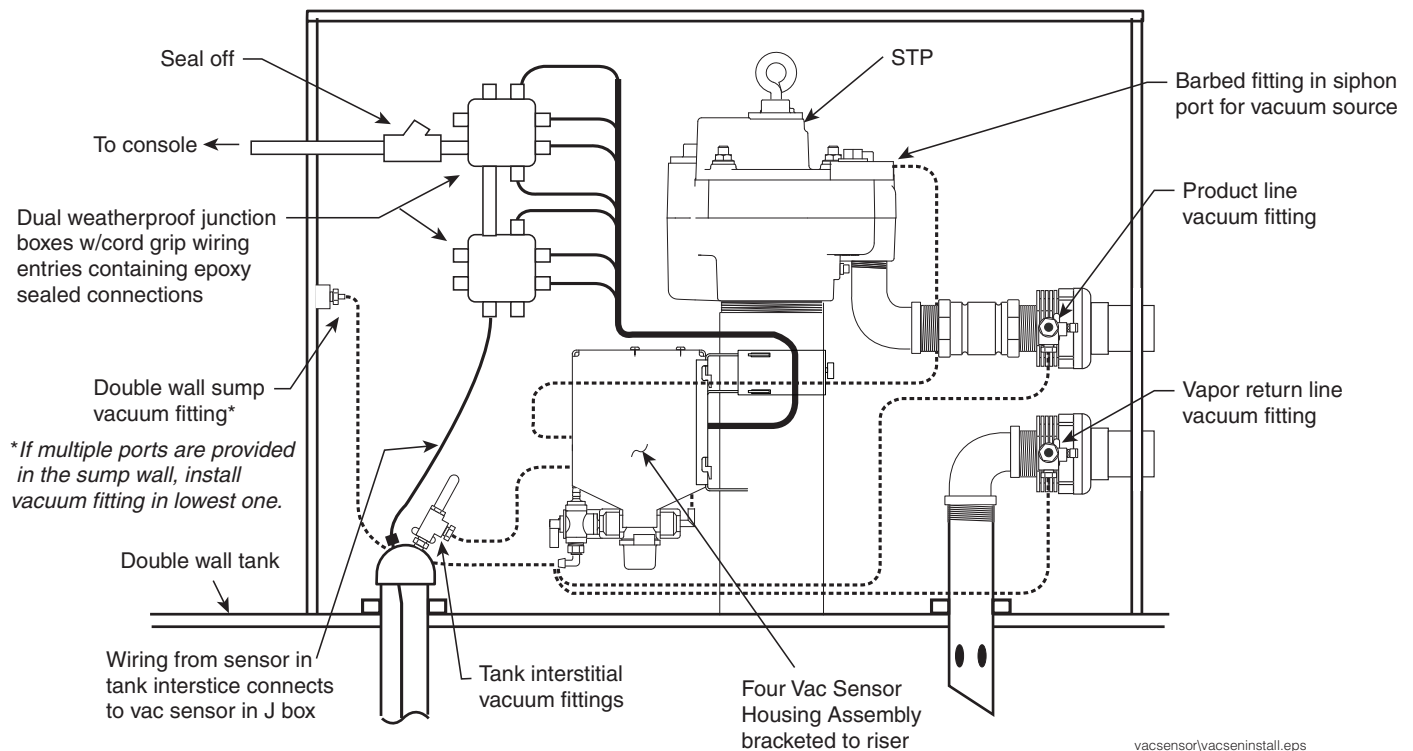
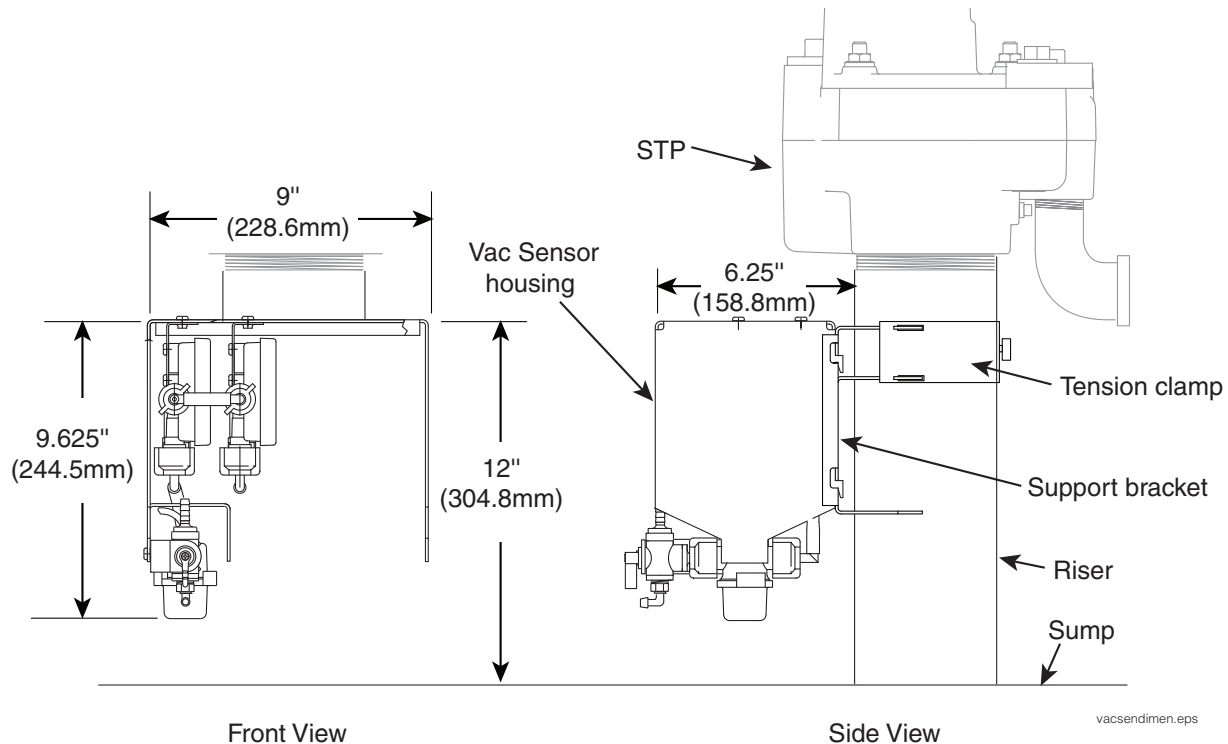

Figure 1. Installation example of Four Vac Sensor w/tank interstitial monitoring
Figure 2. Vac Sensor Assembly Dimensions
A simplified Veeder-Root vacuum sensor installation in an STP containment sump is shown in Figure 1. Vac Sensor (VS) and Vac Float (VF) modules are assembled in a housing which is shown in Figure 2. A separate mounting bracket (see Figure 2) is easily attached to the STP riser to support the Vac Sensor housing. Approximately 12 inches (304.8mm) of clearance is required below the pump manifold for the Vac Sensor components. Final vacuum connections are made once the housing and bracket are in place. A 1/4" NPT port into the interstitial space of the double-wall vapor return line, double-wall product line, and/or double-wall containment sump must be accessible in the containment sump. For installations requiring tank interstice monitoring, a riser must be in the same containment sump for the tank interstitial sensor. Field wiring connections of the Vac Sensor components are sealed in a customer supplied containment sump junction box (JB).